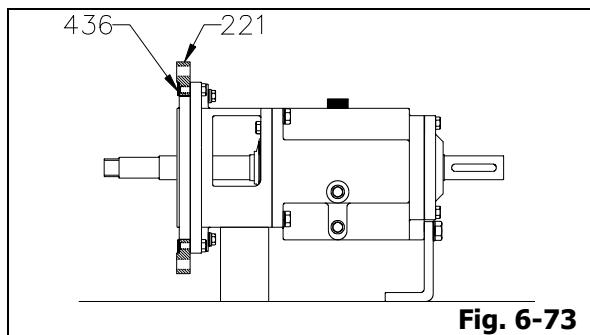

Fig. 6-73
- Install adaptor extension ring gasket (436) onto adaptor extension ring (221) (Fig. 6-73).